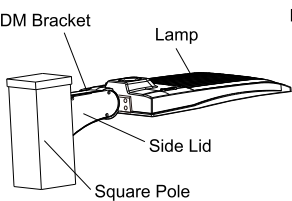

Figure 4
Step 2: Put the connected wire into the junction box, then cover the junction box.(Figure 4)